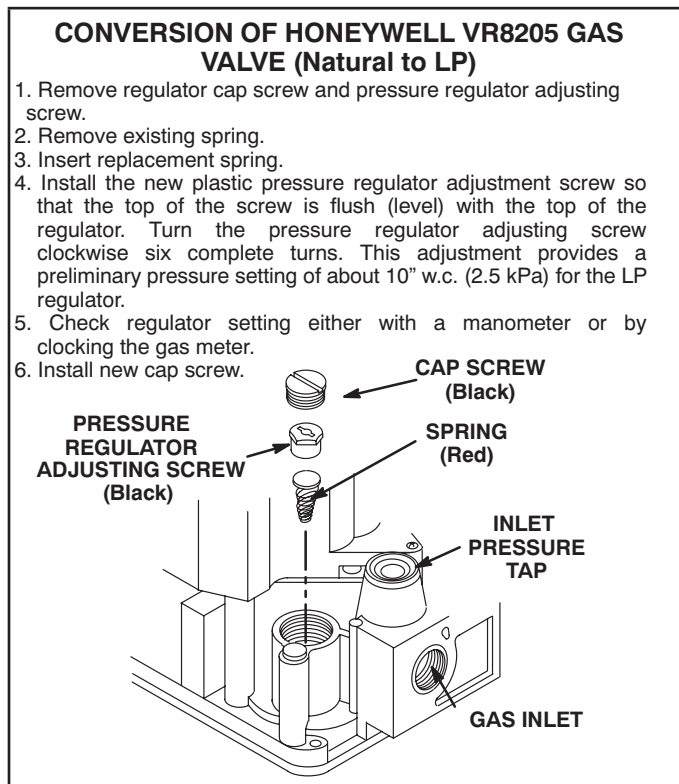

Figure 2
- 5 - Install gas valve conversion kit. Refer to manufacturer's instruction packed in valve conversion kit. See figures 2 and 3.
- 2 - After gas line pressure has been checked and adjusted, check manifold pressure at the pressure tap on the outlet side of the gas valve. The correct manifold pressure for LP/propane gas is given in table 1. Refer to figures 2 and 3 for gas manifold pressure adjustment screw location.